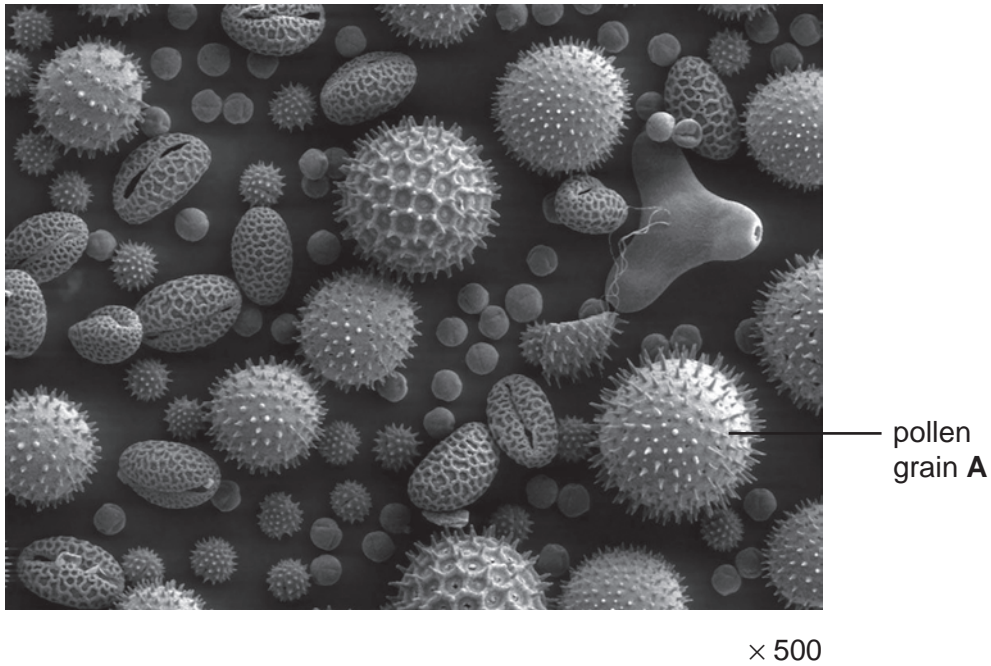

Fig. 2.1
Fig. 2.1 shows some pollen grains in a sample of honey as seen with a microscope.
- (b) (i) Measure the diameter of pollen grain **A**. Draw a line on Fig. 2.1 to show where you have made your measurement.
diameter of pollen grain **A** in Fig. 2.1 mm [1]